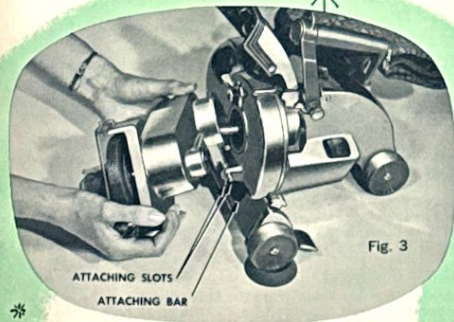

Fig. 3
STEP 3: Raise the Floodlight Hood. Hold the Handi-Butler so the Attaching Slot is on the Attaching Bar which is just below the Belt Drive Shaft. (Figure 3). The Belt Drive Shaft should enter the large round opening and pass through the loop formed by the belt.
STEP 5: Turn the Belt Lifter Lever to the "ON" position and the unit is ready for operation. Rubber cups, which are provided, should be placed under the front wheels to steady the unit (figure 3).